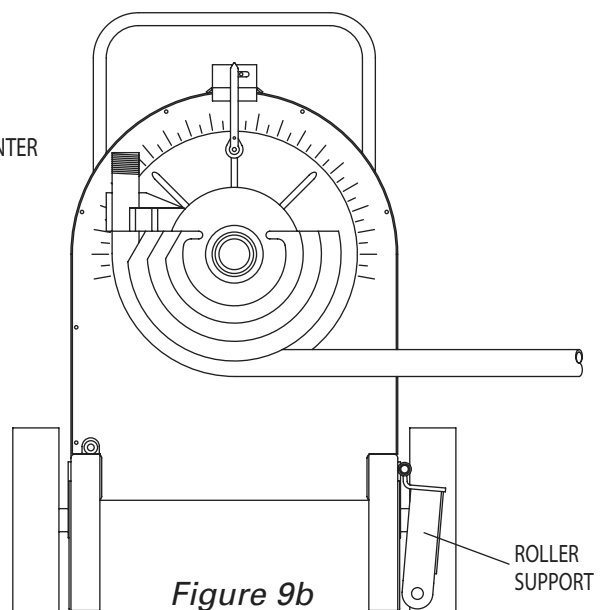

Figure 9b
5. To release the pipe/conduit, place the "Bend/Unload" switch in the "Unload" position. Press the "Jog" button and reverse the shoe far enough to release the conduit. Then, rotate the roller support out of the way. See Figure 9B. The pipe/conduit can now be removed.